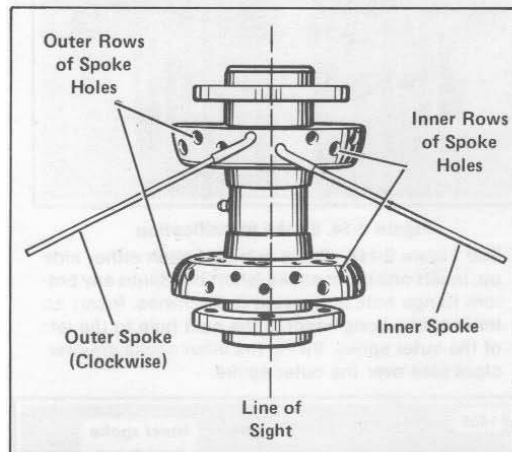
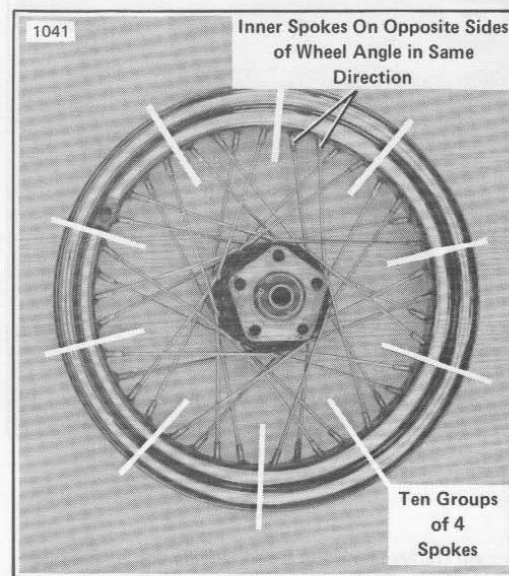

Figure 2-12. Early Style Hub
Figure 2-12B. Early Style Laced Wheel
Early Style Hub - See Figure 2-12. Pick any outside spoke hole and sight straight across the hub. The first spoke hole to the right of the centerline is an inner spoke hole. Also, with the wheel assembled, all inner spokes on opposite sides of the wheel angle in the same direction on opposite sides of the wheel angle in the same direction. See Figure 2-12B.
4. See Figure 2-12 and 2-12A. Insert 10 spokes into the upper flange inner spoke holes. Swing the loose ends clockwise as far as they will go.
5. See Figure 2-12B and 2-12C. The rim is divided into ten groups of spoke holes, 4 holes to a group. In each group, only one hole will be angled toward each upper flange inner spoke. Place the rim over the hub, either side up, and insert the spokes into these holes. Secure each spoke with a nipple screwed on the end about 3 turns, just enough to hold it in place.
6. When all 20 inner spokes are installed, insert a spoke into an outside spoke hole on the same flange side. See Figure 2-12 and 2-12A.